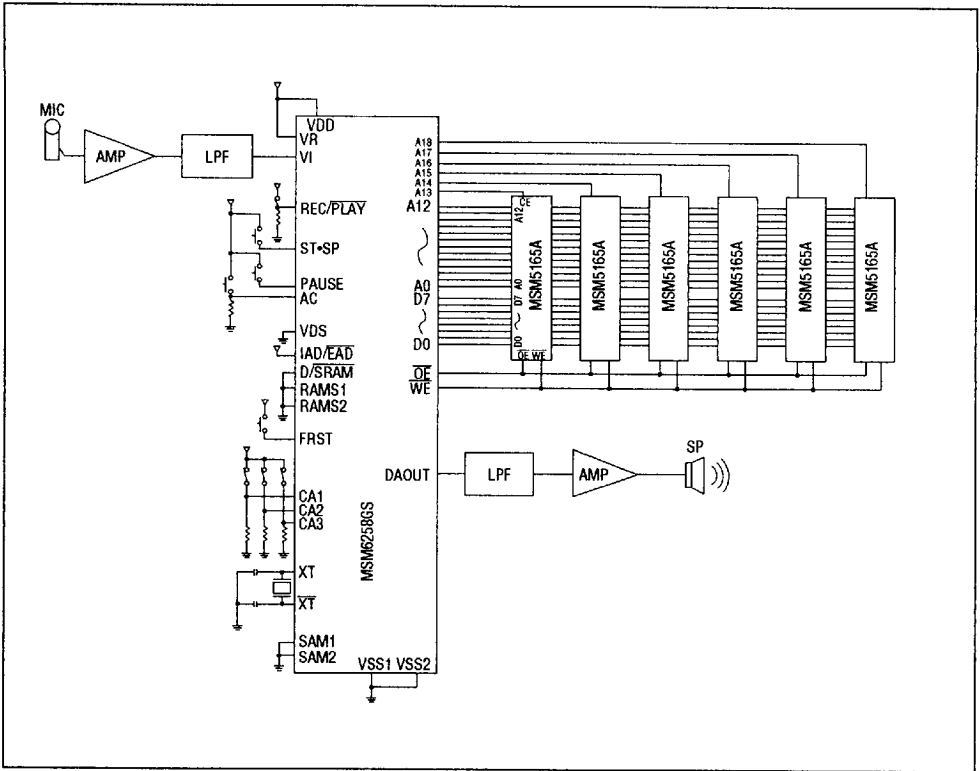

Figure 23 Application Note for 64K SRAM
- Figure 23 shows an example of interface with 64K SRAM.